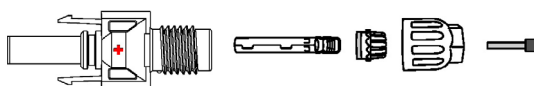

Fig. 23. Disassembling the connector.
- c. Remove the connector from the accessory bag, as shown in Fig. 23: